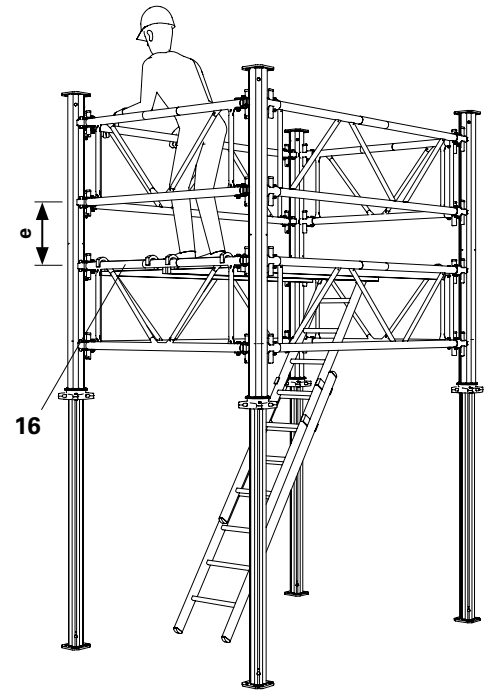

Fig. A4.03
- In order to mount the next prop and frame level, an assembly level (16) must be installed, e.g. MULTIPROP Decking. (Fig. A4.03)